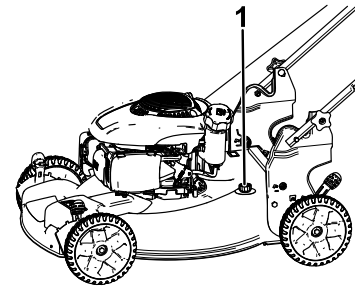

Figure 17
5. Attach a garden hose that is connected to a water supply to the washout port (Figure 17).